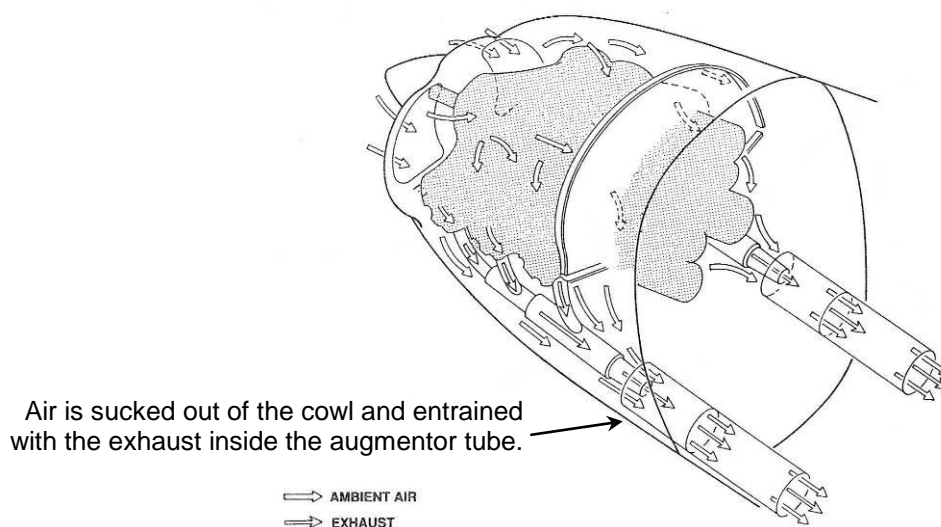

Figure 64. Augmentor Exhaust System
- Augmentor type exhausts (Figure 64) can also be used to suck air out of the cowlings.
- For amphibian or seaplane aircraft using a pusher engine installation the methods outlined above can use the propeller to suck air out of the cowls, but ultimately the effect is limited and can conflict with cooling requirements in other modes of flight. For these installations some form of active venting for the cowls – such as flaps, fans or an augmentor-type exhaust system (See Figure 64) may be required.